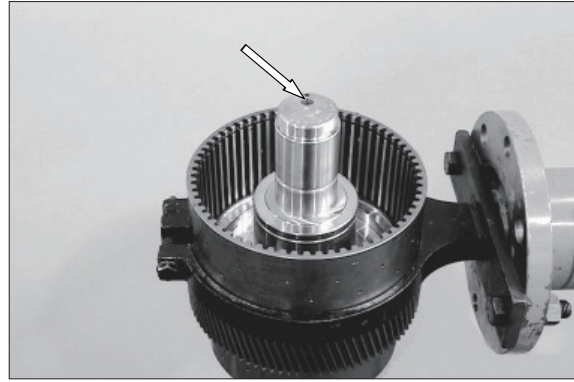

Figure 193
**▲ To install new disc carriers the finished bores have to be sealed with plugs. Installation position, see arrow, figure193~194.**